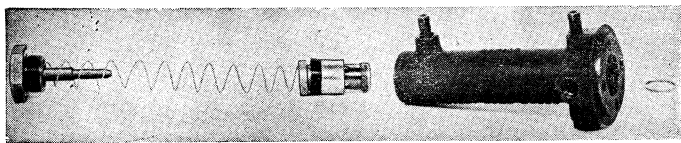

Fig. 9 Hydraulic cylinder with internal parts removed
7. Remove end plug from hydraulic cylinder, Fig. 9, and remove piston and related parts.